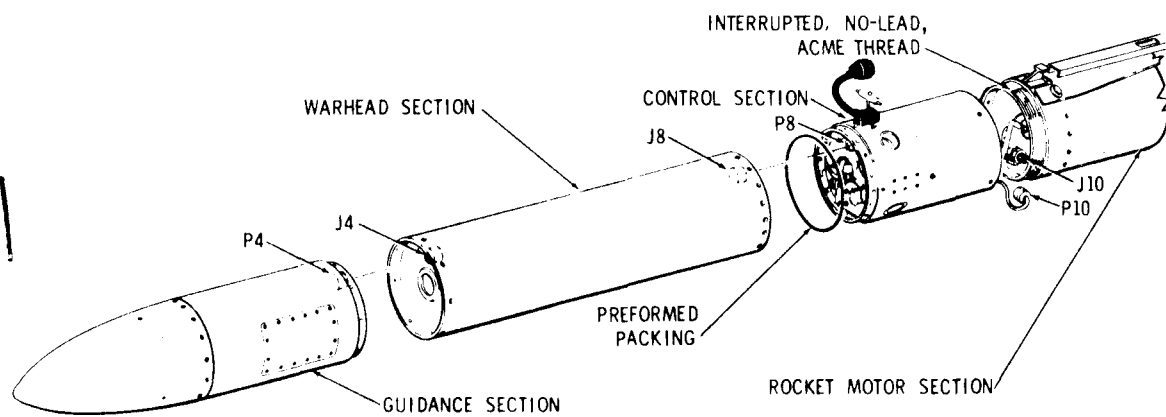

Figure 5-54. AGM-45A Missile Sections
- a. Four-section body (reference figure 5-54).